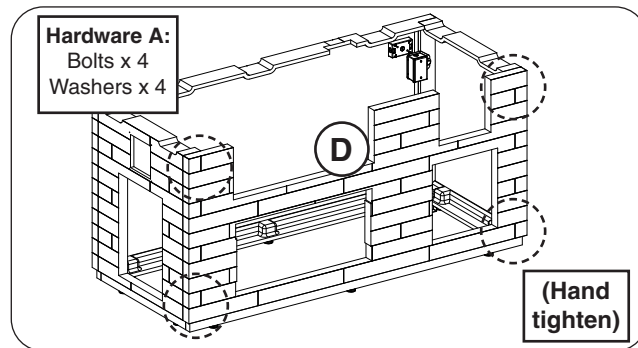

Fig. 8-1 Assemble front wall
Orient the front wall (D) and repeat the hardware installation process (hardware kit A). Hand tighten only. See Fig. 8-1.